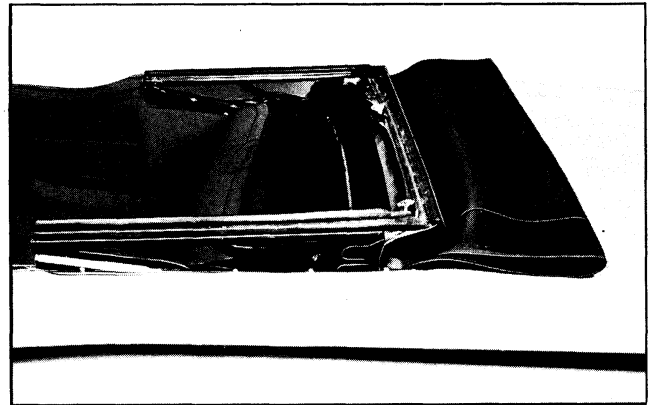

Fig. 22-7 Smooth Out Top Material
D. Operate top control switch until top is in fully lowered position. Smooth out top material on body panel (Fig. 22-7).
2. Smooth out top material on body panel (Fig. 22-7).